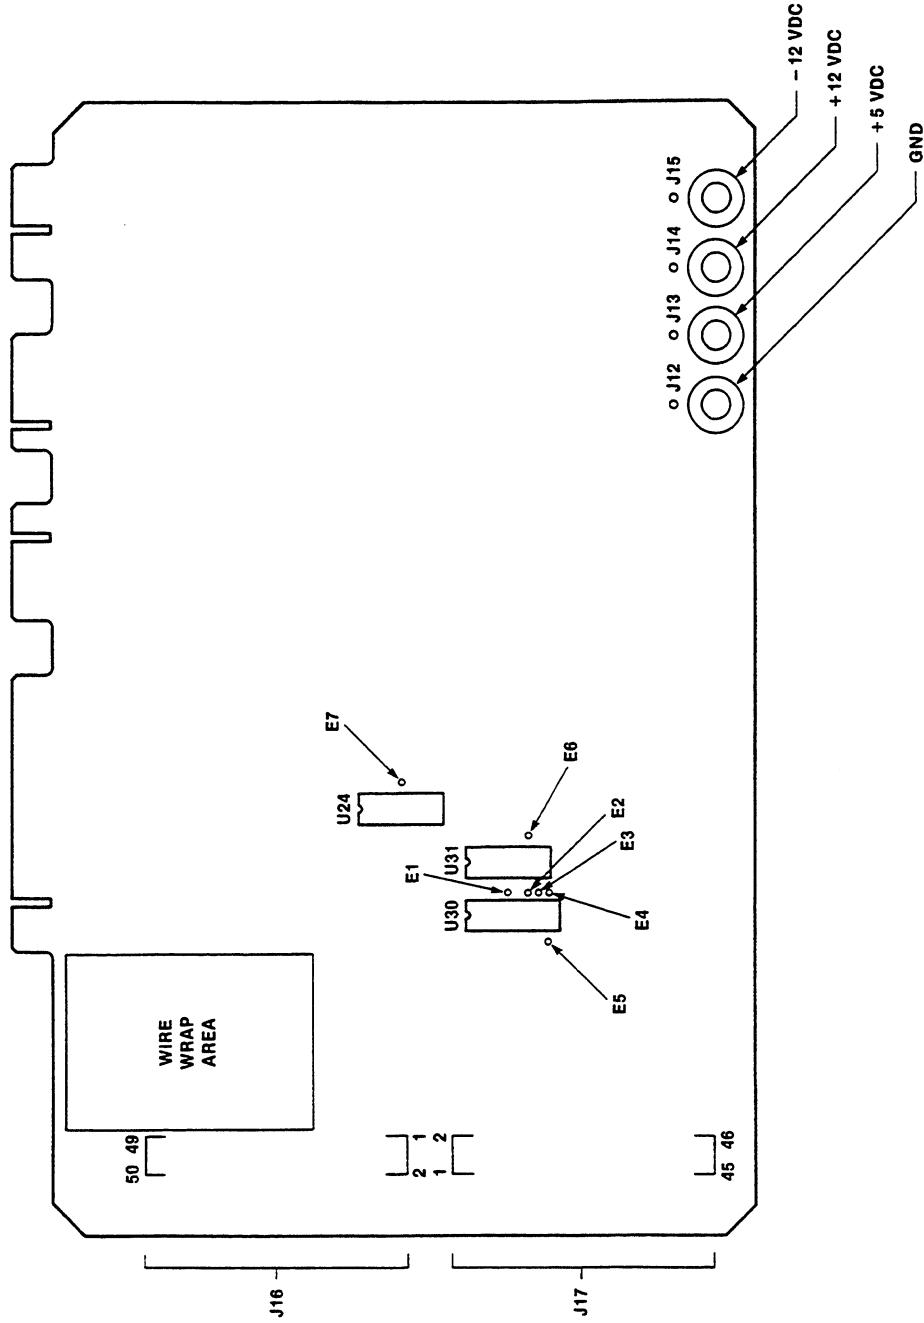
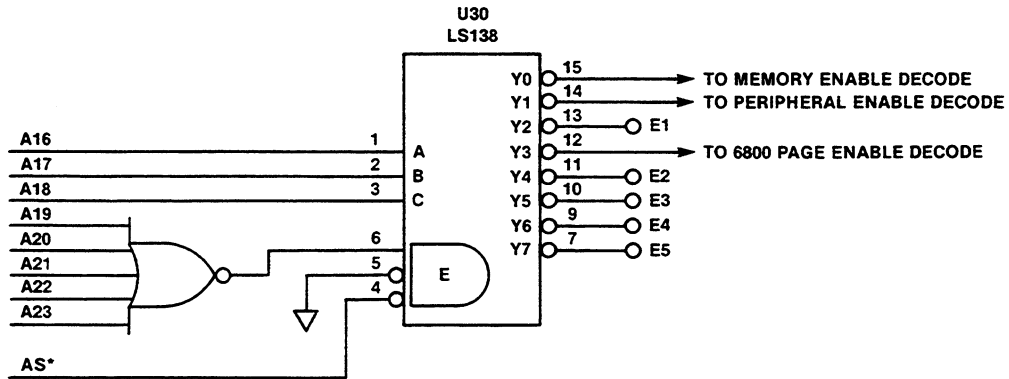
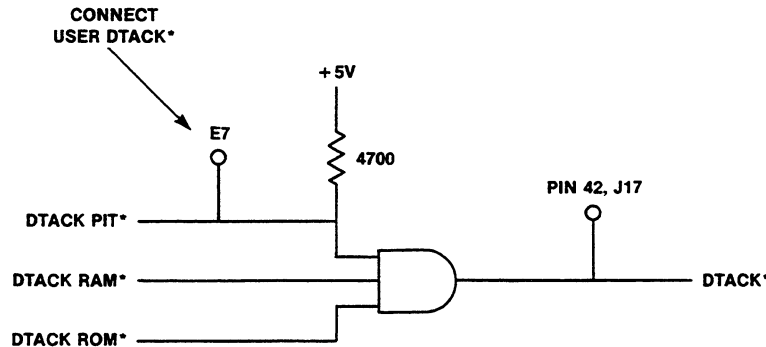
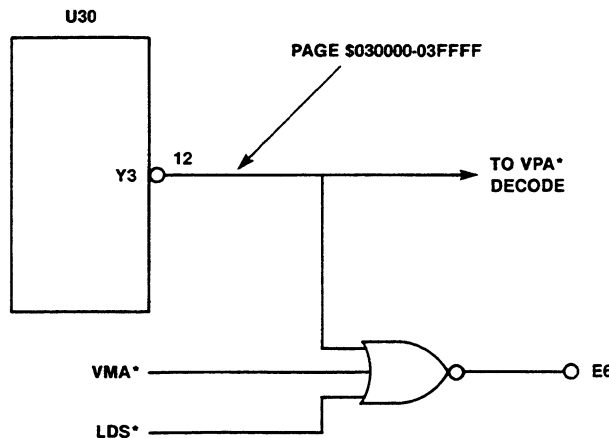

FIGURE 7-2. MEX68KECB Signal Connection Points For Wire-Wrap
FIGURE 7-5. Address Decode Logic For Memory Map Primary Segments
FIGURE 7-6. DTACK* Signal Generation
FIGURE 7-7. M6800 Page Address Signal Generation
The MC68000 Educational Computer Board provides a small wire-wrap area for those users desiring to do custom interface. The location of the wire-wrap area and the signal connection points are shown in Figure 7-2. The following paragraphs provide a detailed discussion of various aspects of doing custom interface to the ECB.
A connection area designated J17 gives access to the MC68000 bus signals and system timing. Figure 7-2 shows the location of J17 and gives pin locations. Table 7-2 lists J17 pin number vs. signal designation and also shows attributes of these signal lines.
- a. Connection points E1 through E5 (see Figure 7-2 for location) give decode signals for various segments of the MC68000 upper memory map. Figure 7-5 shows the address decode logic and Table 7-3 lists the decoded segments.
- c. Access to the MC68000 signal lines is provided via J17. Special care must be taken with DTACK* (Data Transfer Acknowledge). The processor DTACK* is generated by ANDING DTACK PIT*, DTACK RAM*, and DTACK ROM*, as shown in Figure 7-6. The processor DTACK* goes low whenever any of these go low. The user cannot add another signal to the processor DTACK* because this signal is not an open-collector output.
A USER DTACK* is connected to the system via connection point E7 as shown in Figure 7-6. The PIT DTACK* is turned off when not required, and the USER DTACK* can be bussed to this point. A 4700 ohm resistor holds PIT DTACK* high when the driver is turned off. The USER DTACK* must be an open-collector or three-state driver. (E7's location is between packages U24 and U25 as shown in Figure 7-2.)
7.3.6.1 M6800 Page Address Decode. A 64K-byte segment of the system memory map is reserved for an M6800 type interface. Connection point E6 is enabled high whenever this page (\$030000-\$03FFFF) is selected. Connection point E6 can be located on Figure 7-2, and Figure 7-7 shows the logic generating signal E6.